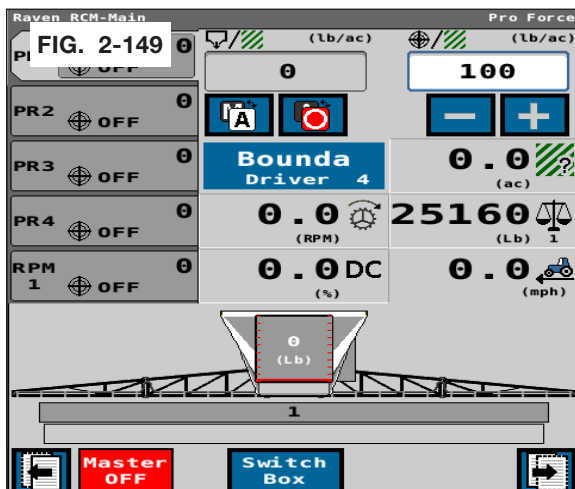

FIG. 2-149
- Click the “Home” button and return to the Main Home Screen. (FIG. 2-149)
- The boundary control button appears. When engaged, button background turns green. (FIG. 2-149)